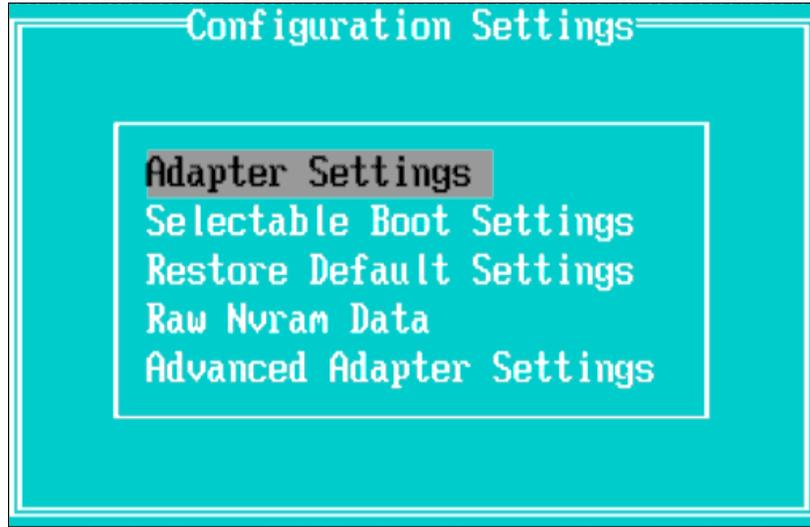

Figure 18-6 Configuration Settings panel
5. Select **Adapter Settings** and press Enter, as shown in Figure 18-6.